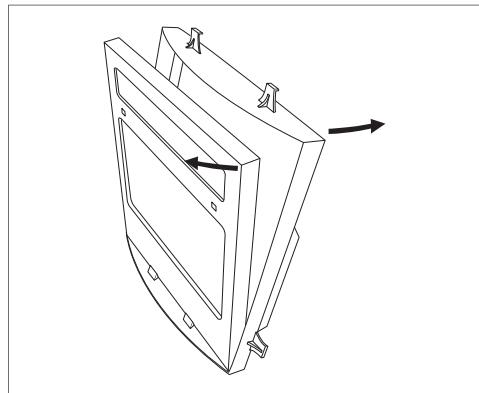
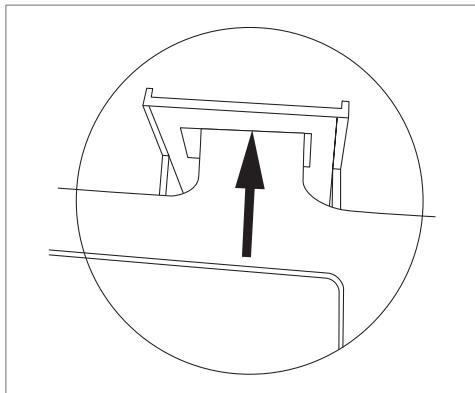

Figure 7a
Figure 7b
- Remove the existing cartridge according to **Figure 7a** and **Figure 7b** and insert a new one.
- Take the new cartridge and thread the potentiometer cable under the wire frame before placing the cartridge in its slot inside the mask. Press down the wireframe and make sure the leading edge of the wireframe is attached under the fixing hooks **Figure 7b**.